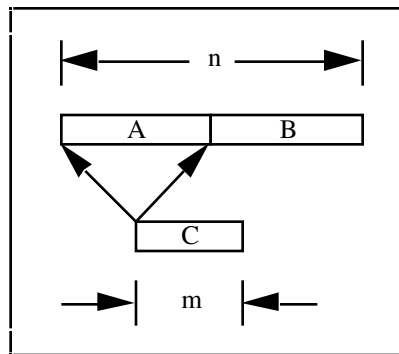

Figure 10-4. Waveform Master Buffer Scheme
In order to generate waveforms using the double-buffered mode, you must create two different buffers for every channel included in the group. One buffer, the buffer loaded during the initial call to **WF\_DBLoad**, is called the master buffer, and the handler divides it into two equal halves called buffer *A* and buffer *B*, as shown in Figure 10-4 under the description of **WF\_DBLoad**. The other buffer will be used as an intermediate buffer and will hold new data until that data has been copied into the next available half of the master buffer.
**timeout** specifies, in ticks, the maximum amount of time to wait before returning from the load call; there are 60 ticks in each second. This variable is of significance only if you are using double buffering. Figure 10-4 shows how new buffers are copied into the master buffer, which affects **timeout**.